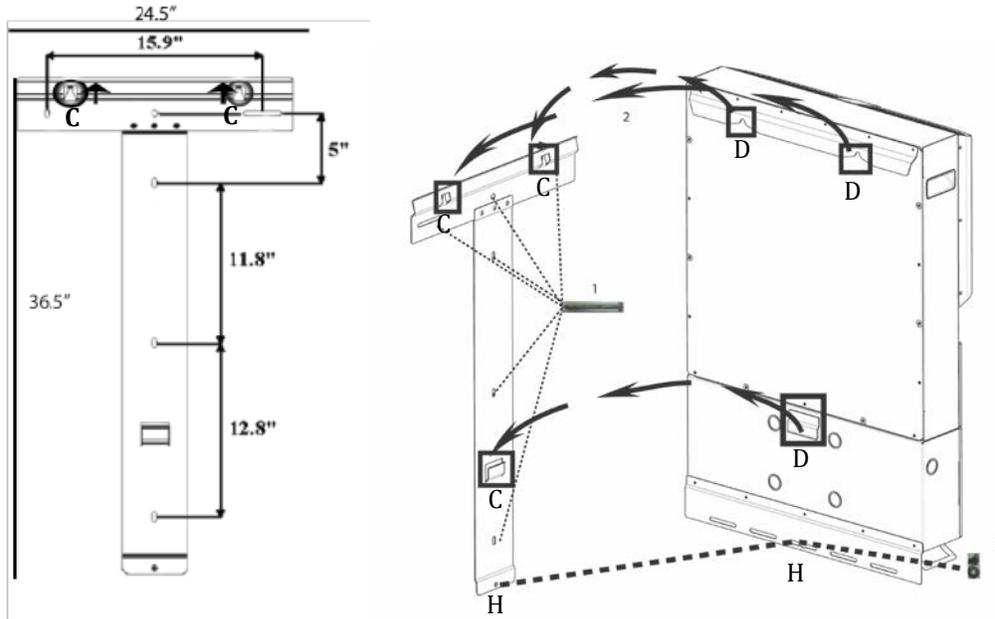

Figure 3.01 - Bracket and Mounting Details PVI-10/12-I-OUTD-S2-US/CAN-XXX
Step 2: Orient the bracket on the mounting surface such that the “C” hooks face outward and upward. (Figure 3.01)
Step 3: Using the hardware provided, mount the bracket using mounting holes shown in Figure 3.01.